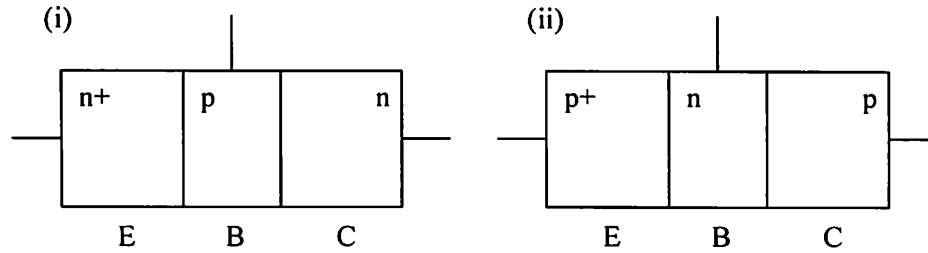

Figure 3.1: i) a cross-section of an npn BJT, ii) a cross-section of a pnp BJT.
- b) Figure 3.1 gives a cross section of both an npn (i) and a pnp (ii) BJT. The BJTs are both biased in forward active mode in common base configuration.
- i) Redraw Fig. 3.1(i) giving the bias voltages between the contacts and indicating clearly the direction of the emitter, base and collector current, I_E , I_B and I_C .
- ii) Redraw Fig. 3.1(ii) giving the bias voltages between the contacts and indicating clearly the direction of the main electron and hole fluxes in each material layer.